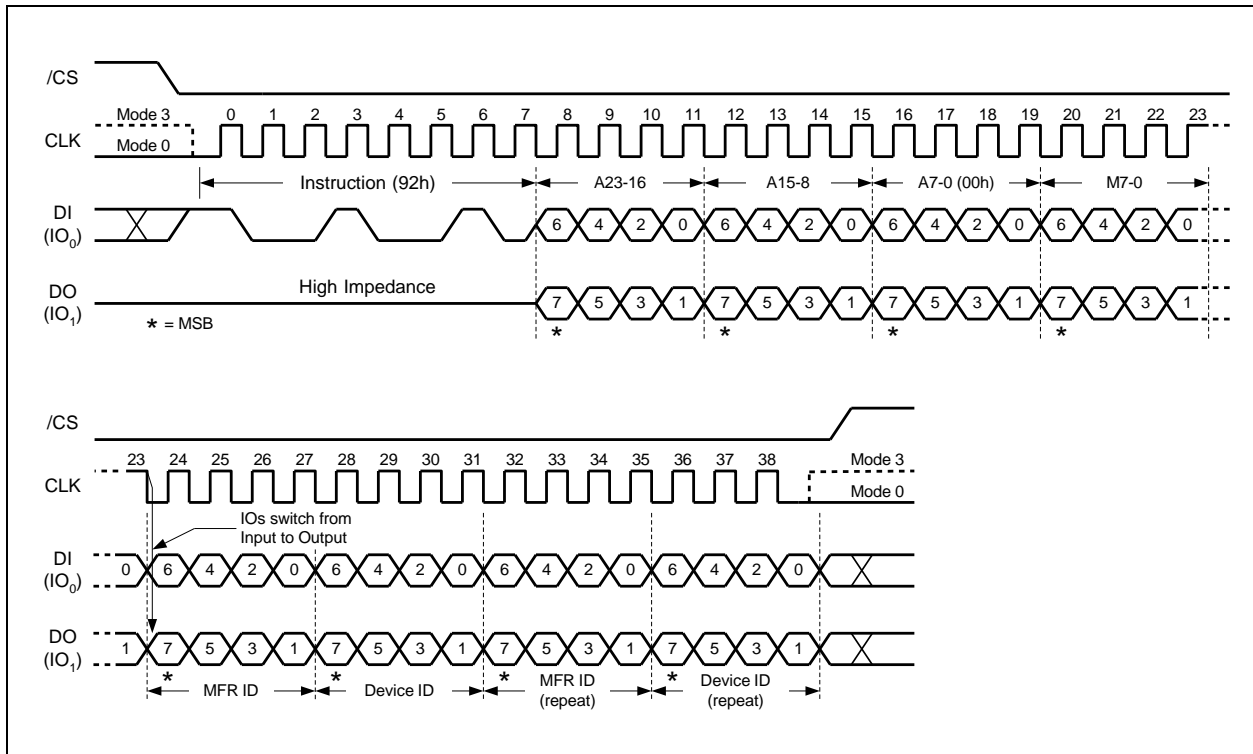

Figure 40. Read Manufacturer / Device ID Dual I/O Instruction
B.3.9 The Read Manufacturer / Device ID Dual I/O instruction is similar to the Fast Read Dual I/O instruction. The instruction is initiated by driving the /CS pin low and shifting the instruction code “92h” followed by a 24-bit address (A23-A0) of 000000h, but with the capability to input the Address bits two bits per clock. After which, the Manufacturer ID for Winbond (EFh) and the Device ID are shifted out 2 bits per clock on the falling edge of CLK with most significant bits (MSB) first as shown in Figure 40. The Device ID values for the W25Q64JV are listed in Manufacturer and Device Identification table. The Manufacturer and Device IDs can be read continuously, alternating from one to the other. The instruction is completed by driving /CS high.